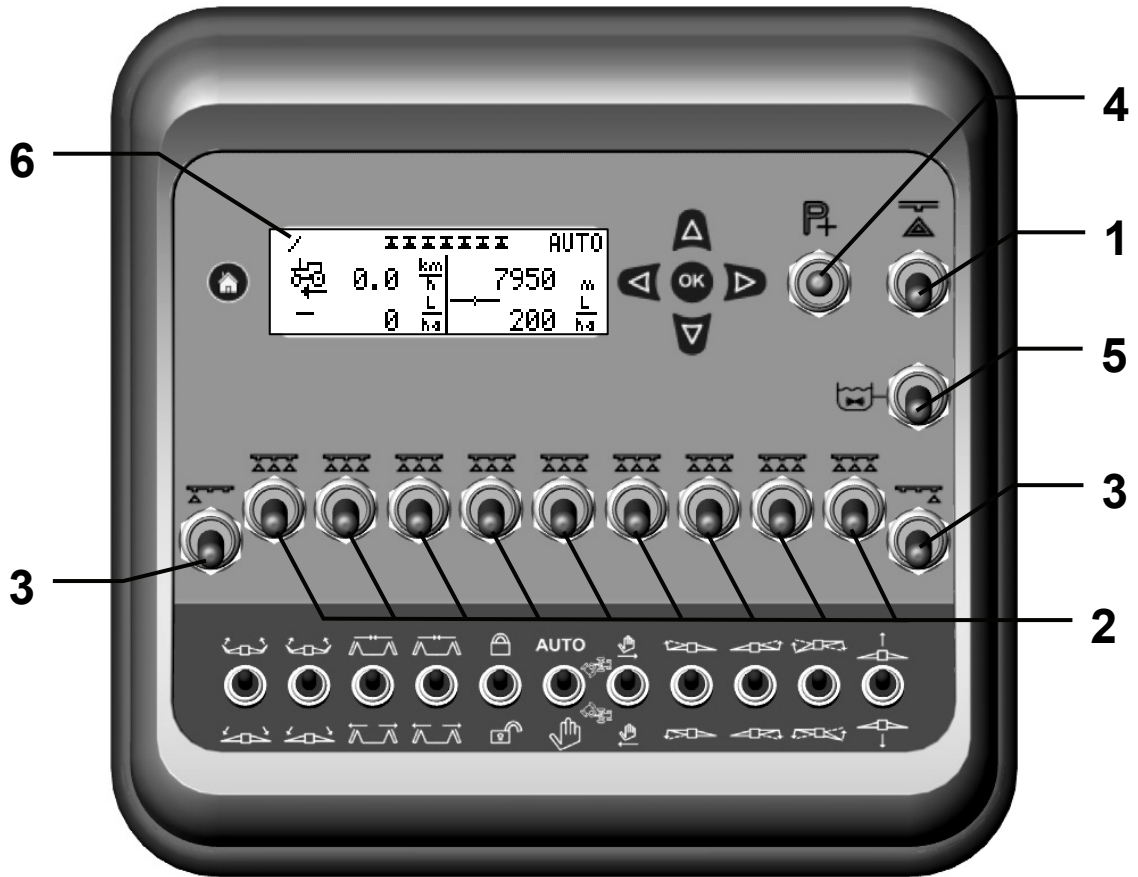

Fig. 1
**Note:** The fact that the agitator has been switched on can be seen by a rotating beam (6) in the top left of the display (main menu, screen 1) (fig. 1).